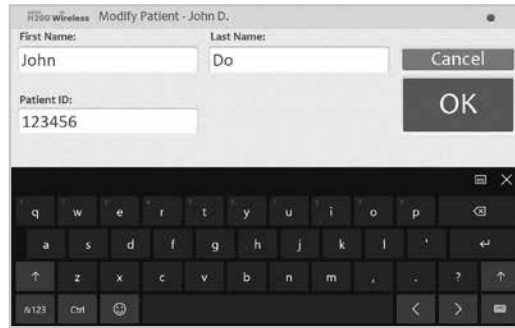

Figure 8-38: Modify Patient Window
2. The Modify Patient window will open. See Figure 8-38.